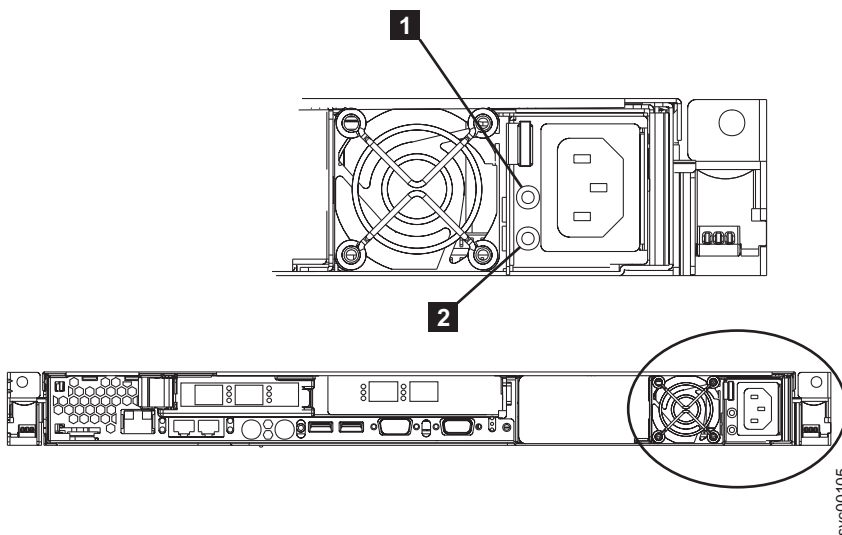

Figure 161. SAN Volume Controller 2145-8F2 or SAN Volume Controller 2145-8F4 ac and dc power LEDs
5. Make sure that the power-supply fan starts and the ac power LED **1** and dc power LED **2** (shown in Figure 161) on the power supply are lit, indicating that the power supply is operating correctly.